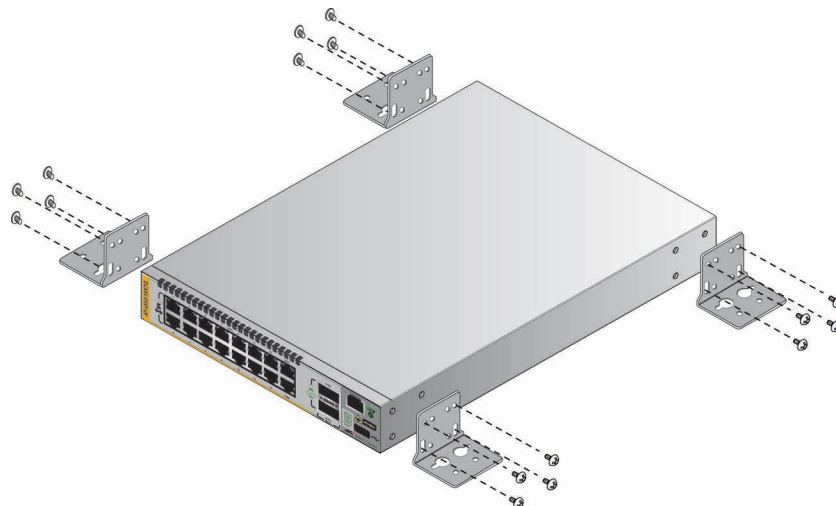

Figure 58. Installing the Wall Brackets
2. For the AT-x550-18XTQ or AT-x550-18XSQ Switch, install the four AT-BRKT-J24 wall brackets to the sides of the unit, with the sixteen M4x6mm screws included with the switch. Refer to Figure 58.
- Position it so that the front panel is either on the left or right. Refer to Figure 58. Do not install it with the front panel facing up or down.
2. For the AT-x550-18XTQ or AT-x550-18XSQ Switch, install the four AT-BRKT-J24 wall brackets to the sides of the unit, with the sixteen M4x6mm screws included with the switch. Refer to Figure 58 on page 116.